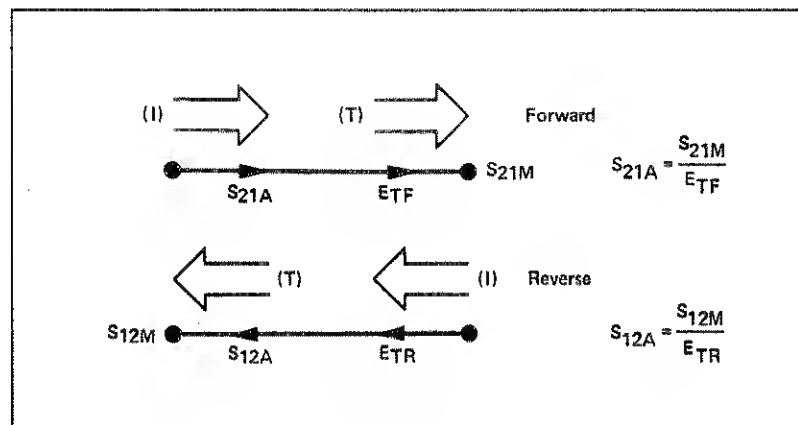

Figure 5-43
The transmission coefficient is measured by taking the ratio of the incident signal (I) and the transmitted signal (T) (Figure 5-43). Ideally, (I) consists only of power delivered by the source, and (T) consists only of power emerging at the test device output.